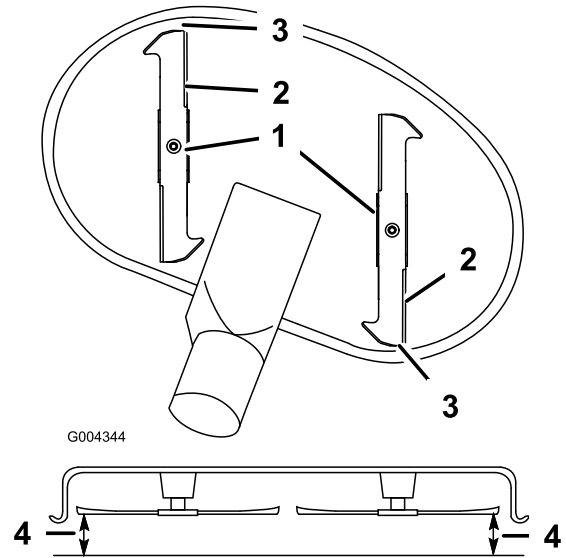

Figure 55
10. Measure from the tip of the front blade to the flat surface and the tip of the rear blade to the flat surface (Figure 55). If the front blade tip is not 1/16-5/16 inch (1.6-7.9 mm) lower than the rear blade tip, adjust the front locknuts.
9. Set the height-of-cut at position **D** [3 inch (76 mm)] and carefully rotate the blades so they are facing front to rear (Figure 55).